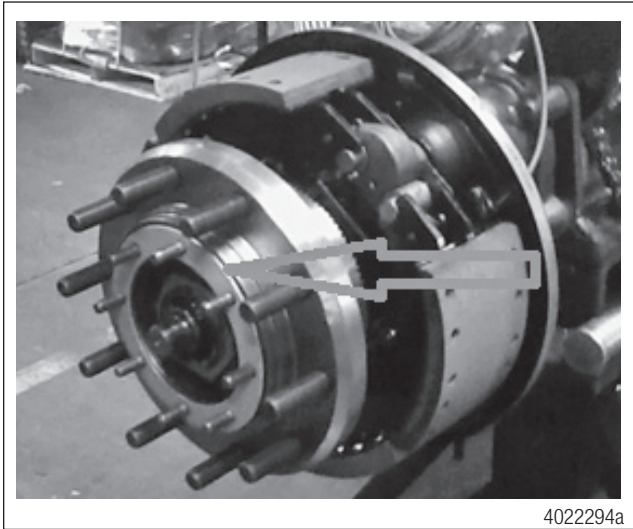

Figure 13
8. Remove the shim pack from the face of the wheel end. Set the shims aside for use during reassembly. Figure 13.